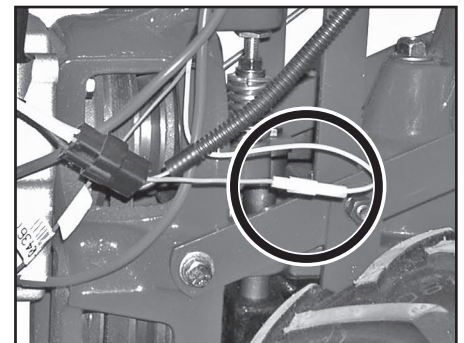

Figure 2-5B. Connect the safety wire assembly (green and yellow wires)
2. Connect the safety wire assembly (green and yellow wires), Figure 2-5B.